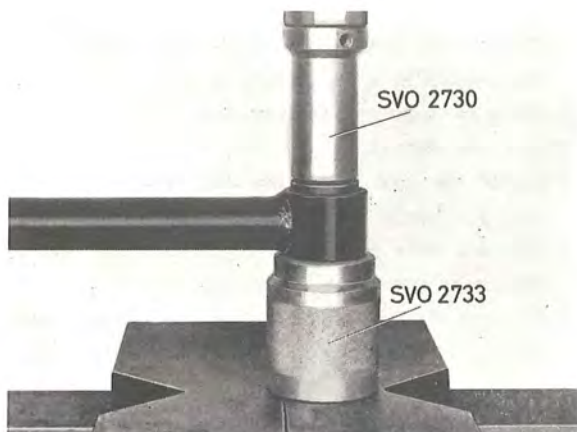
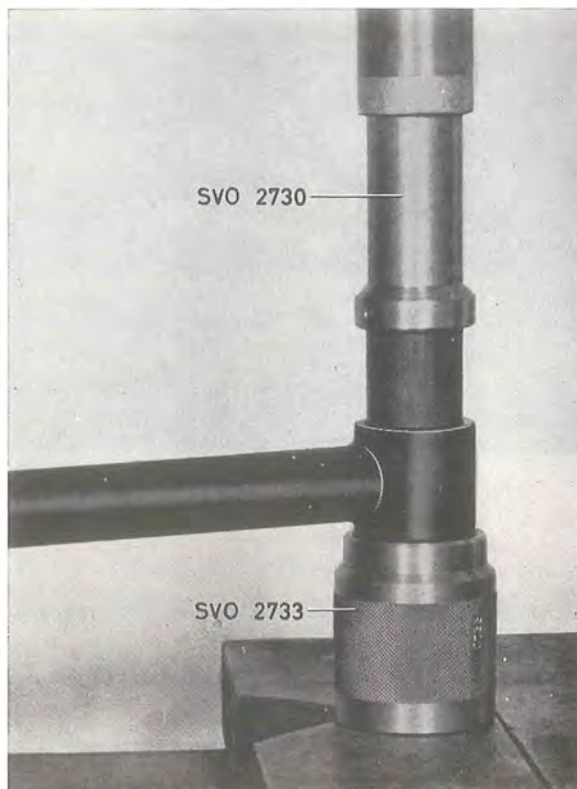

Fig. 7-11. Removing the small bush, track bar
Fig. 7-12. Fitting the small bush, track bar
5. The large bushes are pressed out with SVO 2731, and SVO 2733 as a counterhold (Fig. 7-11). When pressing in the bushes, SVO 2731 is reversed (Fig. 7-12).
6. Fit the bar with the screw to the frame bracket (12).
7. Place the other end on the rear axle bracket (6) and fit both washer and nut. Screw on the frame bracket nut.